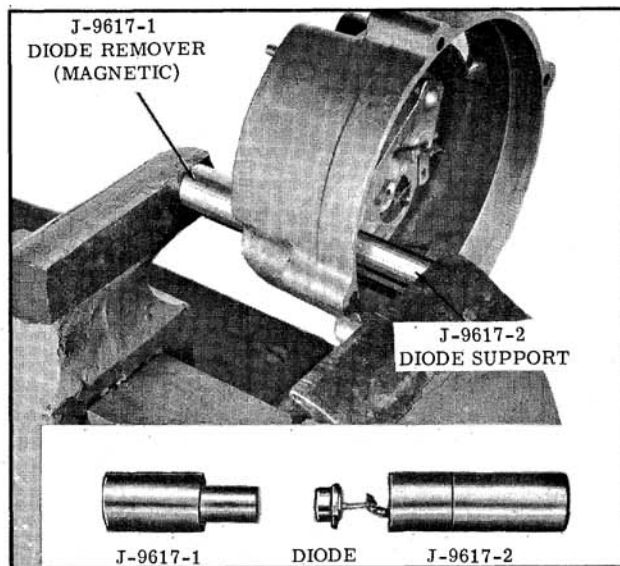

Fig. 13-37 Diode Removal
1. With the generator disassembled and the stator removed, position Tool J-9617-1, J-9617-2 and the slip ring end-frame in a vise as shown in Fig. 13-37.